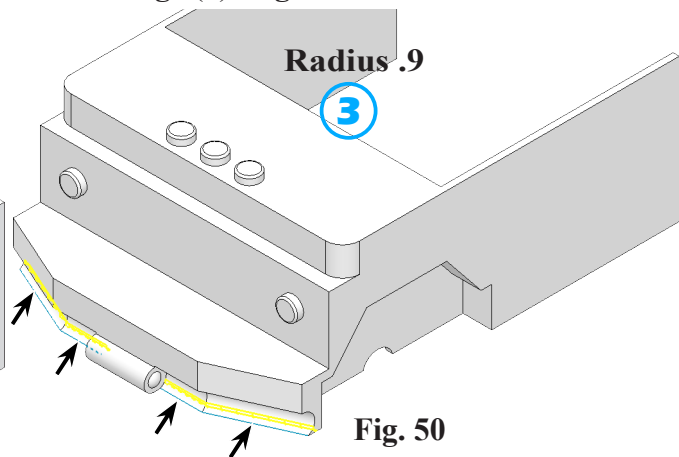

Fig. 50
③ **Radius**  **.9**
click bottom edges along Sweep-Cut of hinge (4), Fig. 50